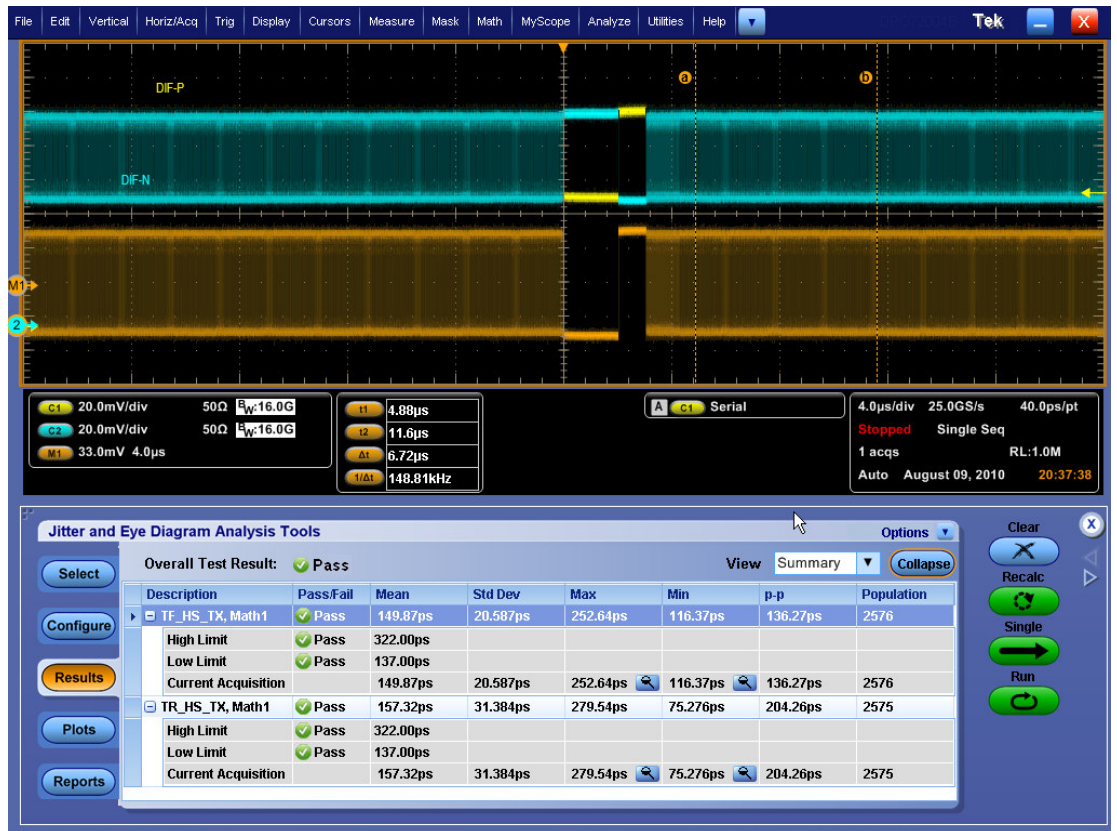
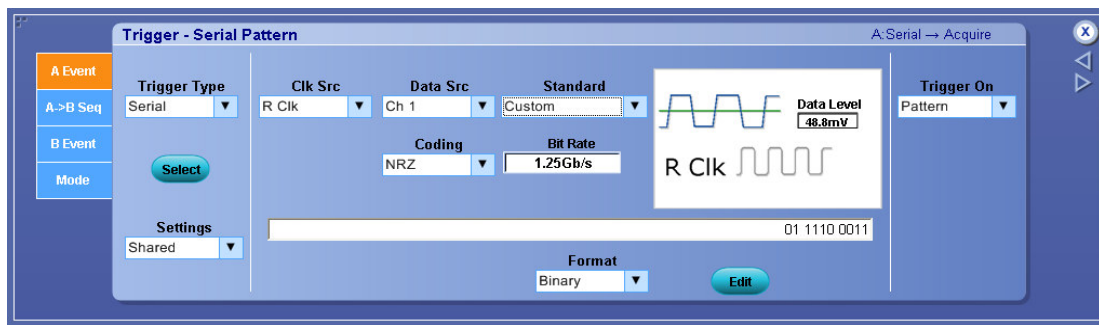

Figure 13: Rise Time and fall Time for SA signals
Figure 14: Trigger setup for Slew Rate Measurement
8. Click on **Single Run** and Verify the result as shown below in the Figure 13 and Figure 14.
- The Gated Cursor need to be adjusted if required and should be placed in between the payload region as shown in Figure 13.
5. Go to Trigger menu, change the trigger Type to Serial, Source to DIF-P(Ch1), Bit rate to 1.248Gb/s, Pattern length is 0111100011 (Binary). See Figure 14.